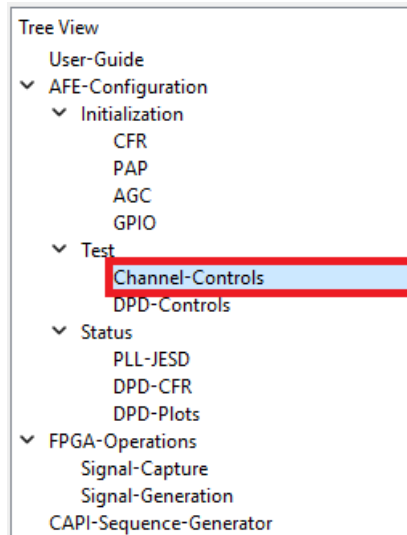

Figure 3-17. Switching to the Channel Controls Tab in Latte
- Click *TX-Test* under the tree view, as shown in Figure 3-17.